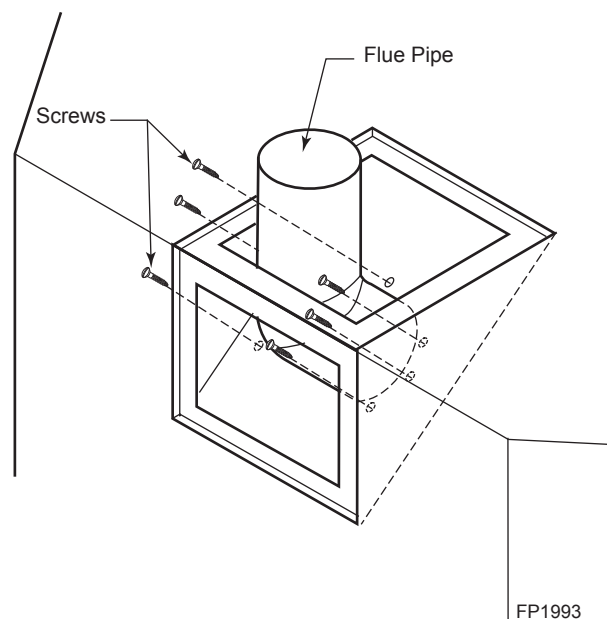

Figure 9 - Attach Flue Pipe to Top Vent Configuration
5. Replace the flue pipe to top of firebox. Ensure the gasket is in place and undamaged. Secure with six (6) screws. *Figure 9*
7. Refit the flue pipe adapter and gasket to the top of fireplace. Secure the adapter with six (6) screws removed in Step 1.